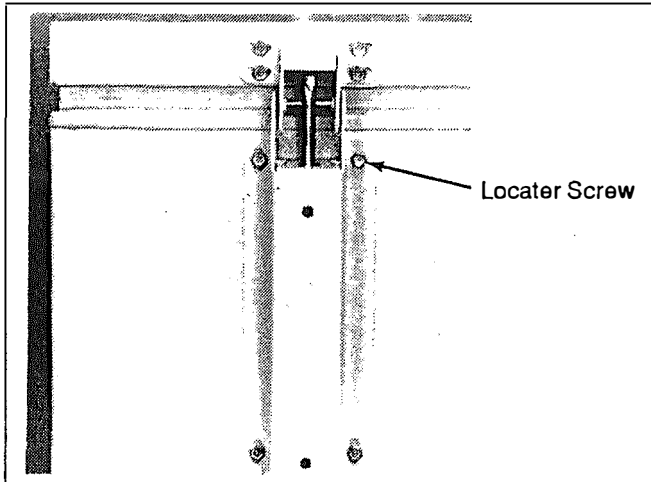

Figure B16 - Lid Removal
3. With the pin in place, remove the four 3/8" hex head screws holding the hinge to the cabinet. See Figure B16.
7. Assemble and replace lid in reverse order, installing the upper right locator screw first. See Figure B16.